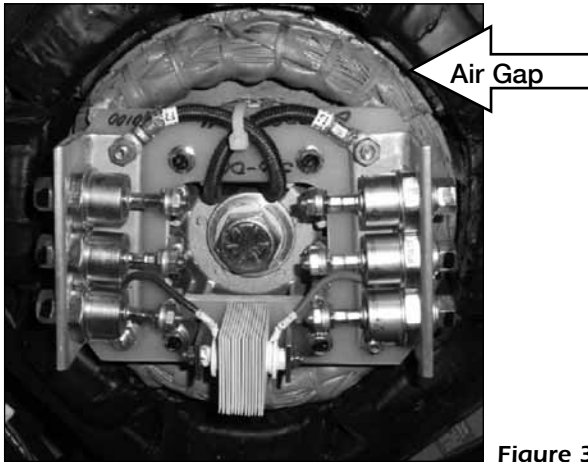

Figure 3-2
9. Use a feeler gauge (.0015 - .002 inch) between the top of the SAE adapter and flywheel housing (Figure 3-2)
4. Use a feeler gauge (.0015 - .002 inch) between the top of the SAE adapter and flywheel housing (Figure 3-2)